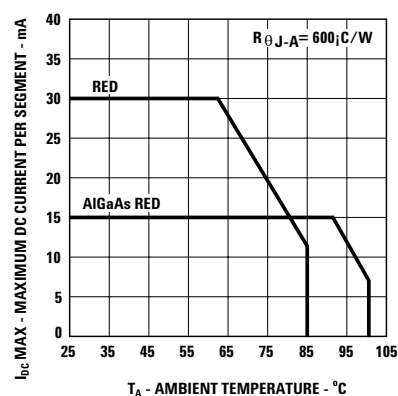

Figure 3. Maximum Allowable DC Current vs. Ambient Temperature.
- Derate maximum DC current for Red above $T_A = 62^\circ\text{C}$ at $0.79 \text{ mA}/^\circ\text{C}$, and AlGaAs Red above $T_A = 91^\circ\text{C}$ at $0.8 \text{ mA}/^\circ\text{C}$. See Figure 3.